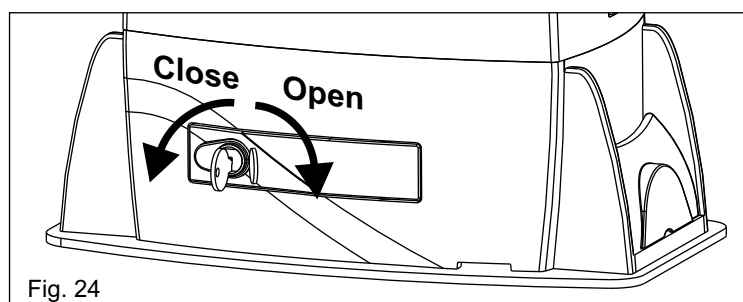

Fig. 24
- Open the lock cover, insert the key and rotate it 90° clockwise (Fig. 24).